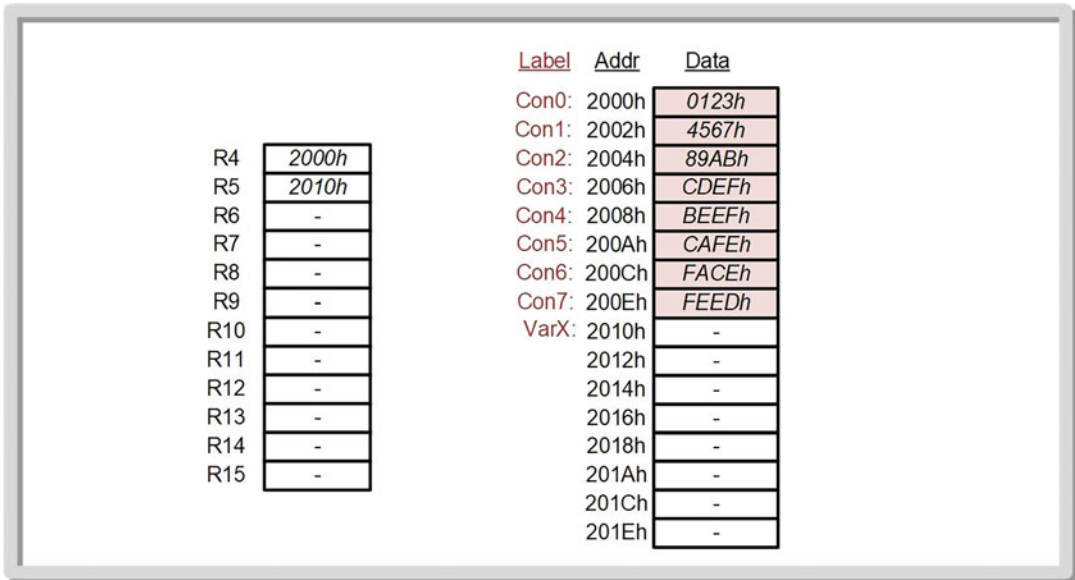

Fig. 6.1
Figure 6.1 provides the initial values of CPU registers and memory that will be used in some of the exercise problems.
- 6.3.1** Using the values from Fig. 6.1, provide the new value of R15 if the following instruction is executed:
- 6.3.2** Using the values from Fig. 6.1, provide the new value of R15 if the following instruction is executed:
- 6.3.3** Using the values from Fig. 6.1, provide the new value of R15 if the following instruction is executed:
- 6.3.4** Using the values from Fig. 6.1, provide the new value of R15 if the following instruction is executed:
- 6.3.5** Using the values from Fig. 6.1, provide the new value of R15 if the following instruction is executed:
- 6.3.6** Using the values from Fig. 6.1, provide the new value of R15 if the following instruction is executed:
- 6.3.7** Using the values from Fig. 6.1, provide the new value of R15 if the following instruction is executed:
- 6.3.8** Using the values from Fig. 6.1, provide the new value of R15 if the following instruction is executed:
- 6.3.9** Using the values from Fig. 6.1, provide the new value of R15 if the following instruction is executed:
- 6.3.10** Using the values from Fig. 6.1, provide the new value of R15 if the following instruction is executed:
- 6.4.1** Using the values from Fig. 6.1, provide the new value of R7 if the following instruction is executed:
- 6.4.2** Using the values from Fig. 6.1, provide the new value of R7 if the following instruction is executed:
- 6.4.3** Using the values from Fig. 6.1, provide the new value of R7 if the following instruction is executed: